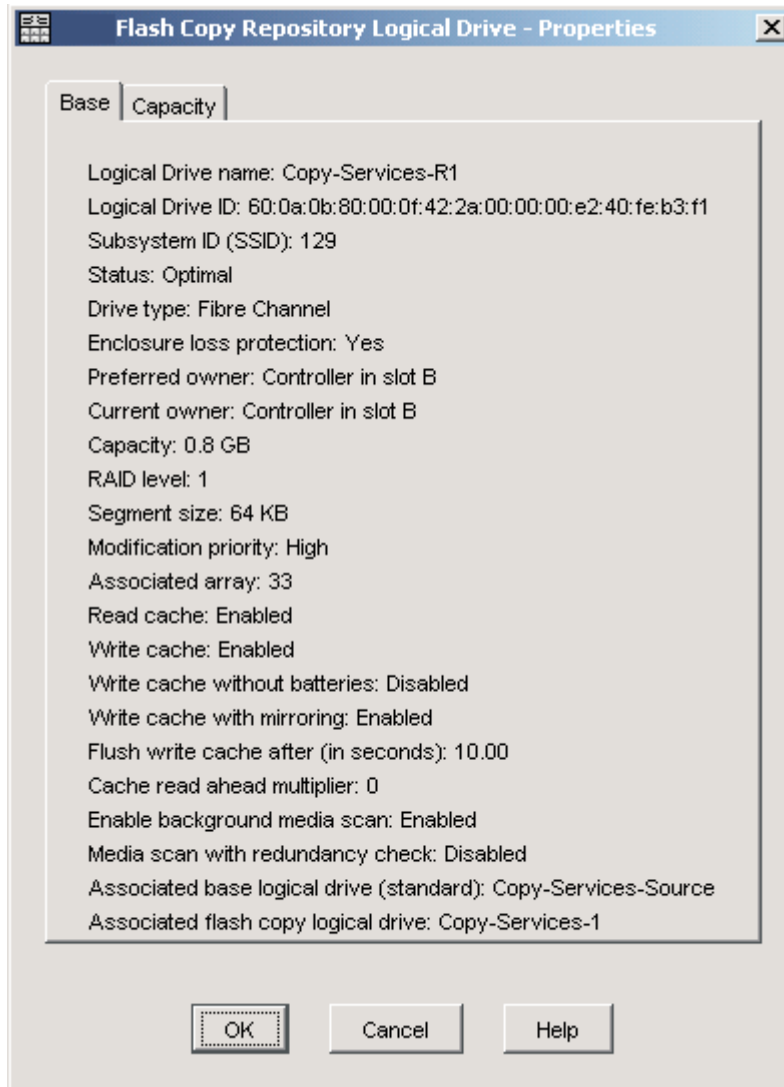

Figure 14. FlashCopy repository logical drive properties
2. Click **Logical Drive → Properties**. The FlashCopy Repository Logical Drive - Properties window opens. See Figure 14 on page 46.